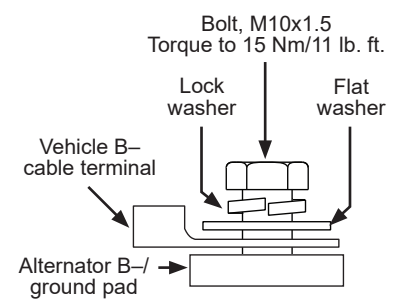

Figure 3: B- Terminal Hardware Stacking Order
6. Connect vehicle B- cable to alternator B- terminal following stacking sequence shown in Figure 3. Torque to 15 Nm/11 lb. ft.